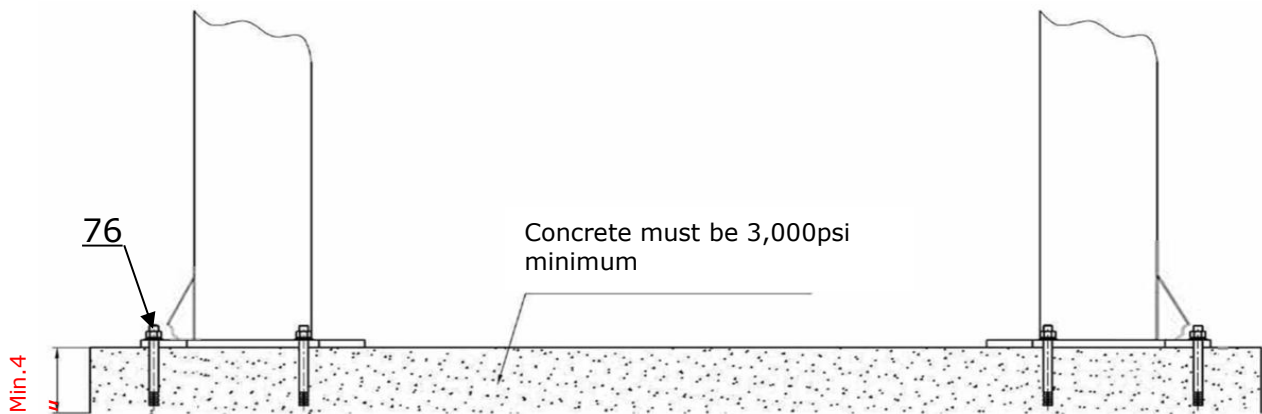

Fig. 8
D. SPECIFICATIONS OF CONCRETE (See Fig. 8)
1. Installation space: Ensure there is enough space for the lift. Accurately measure the front, back, side and top mounting dimensions and refer to the below figure data(**See Fig. 8**).